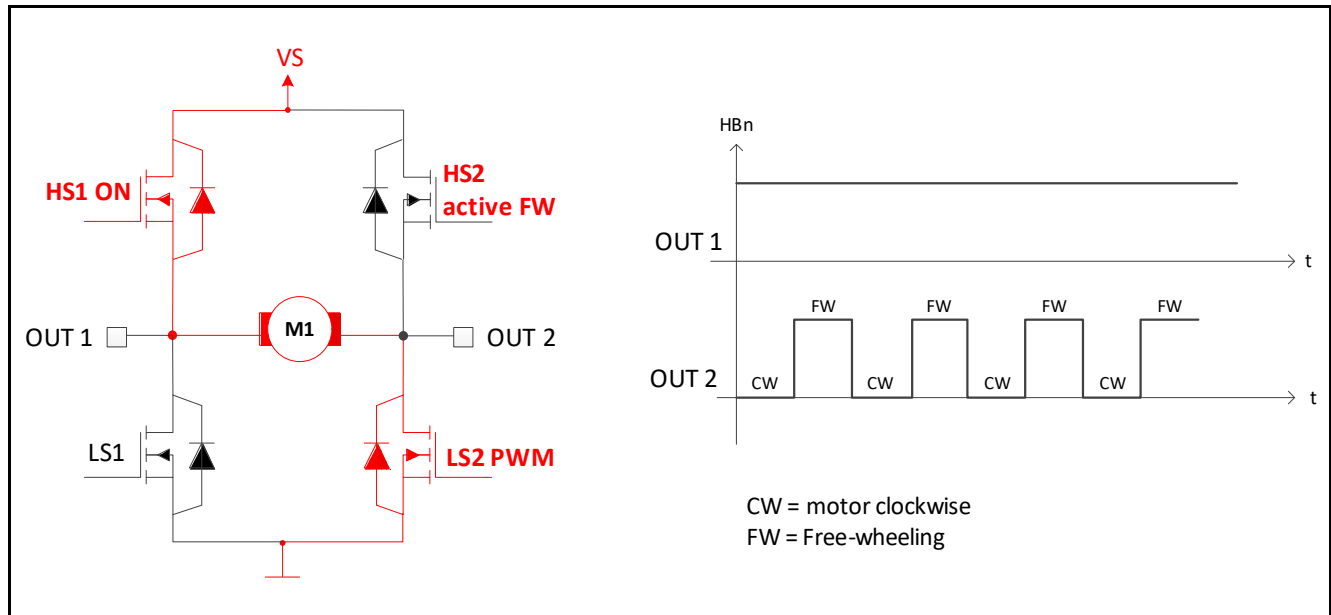

Figure 5 PWM operation on OUT 2
An illustration is shown in **Figure 5** with OUT1 and OUT2 driving a DC brush motor. With this configuration, HS1 is permanently driven while LS2 is driven in PWM operation. HS2 serves to actively free-wheel (FW) the motor current load, reducing the power dissipation of the device.